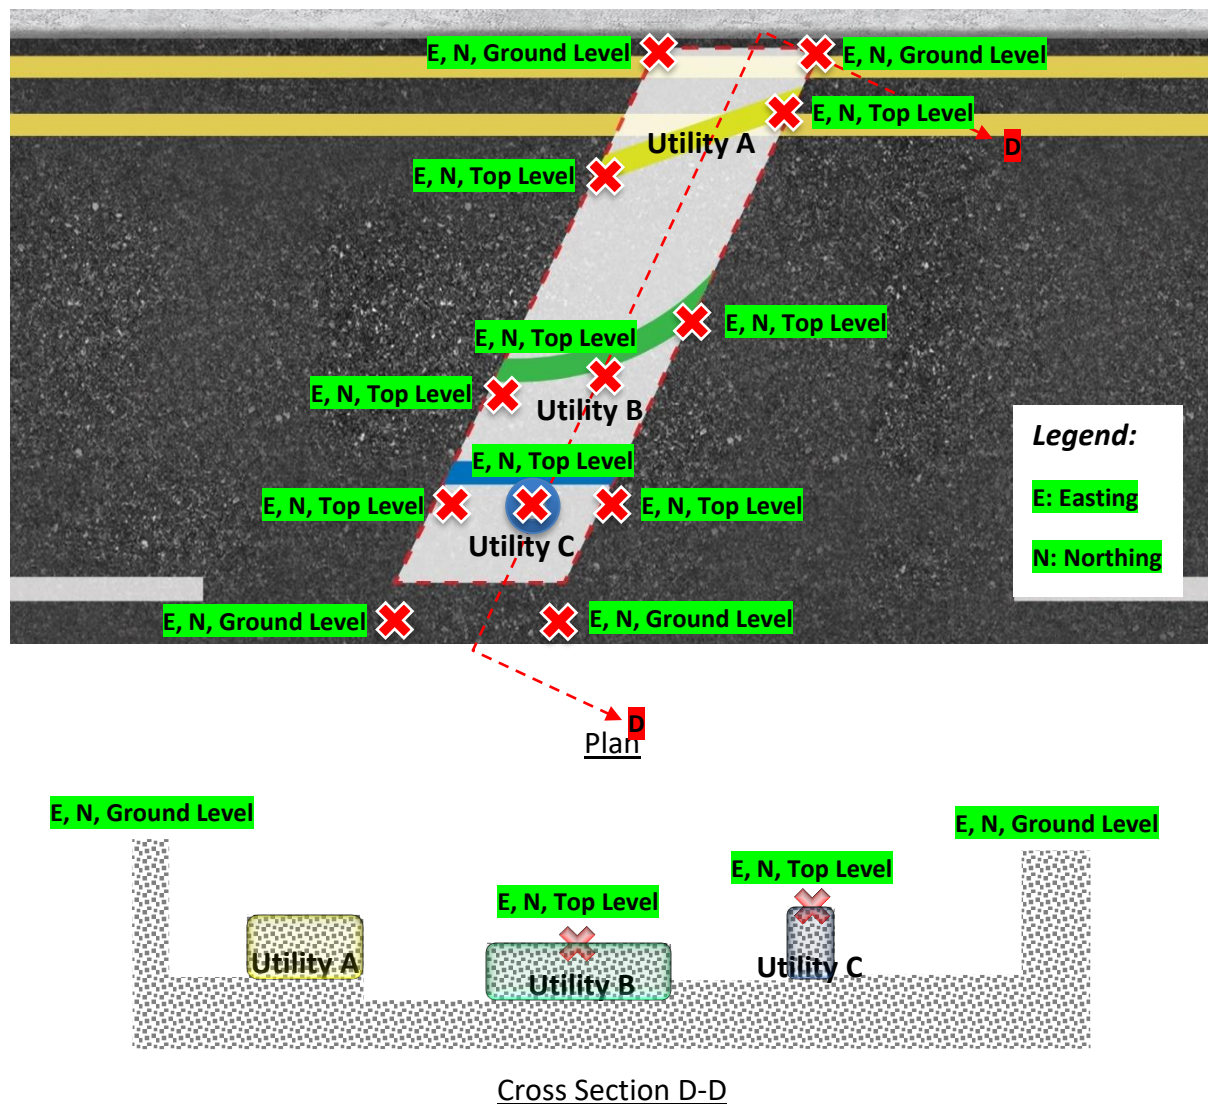

Figure 7: An example of Trial Trench Utility Survey carried out on a single lane within Carriageway
- i. *Easting, Northing, and Ground level (w.r.t. SHD)* shall be surveyed at four corners of the trench location as shown in Figure 7.
- i. *Easting, Northing and Top Level (w.r.t. SHD)* shall be surveyed at utilities positions as shown in Figure 7.
- ii. For straight lines, surveys shall be carried out at two extreme ends of the exposed section of the utilities, as depicted by Utility A in Figure 7.
- iii. For curved lines, adequate number of surveyed points (as determined by the Registered Surveyor) shall be captured along the entire length of the curves, as depicted by Utility B in Figure 7.
- i. *Easting, Northing and Top Level (w.r.t. SHD)* shall be surveyed at the top centre of the structures, as depicted by Utility C in Figure 7.